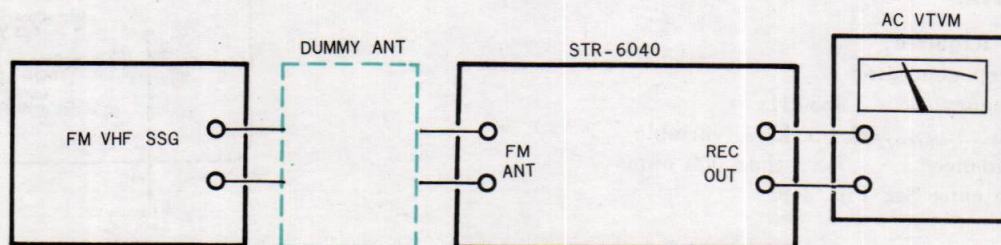

Fig. 3-6 Front end alignment test set-up
2. Connect the equipment as shown in Fig. 3-6.